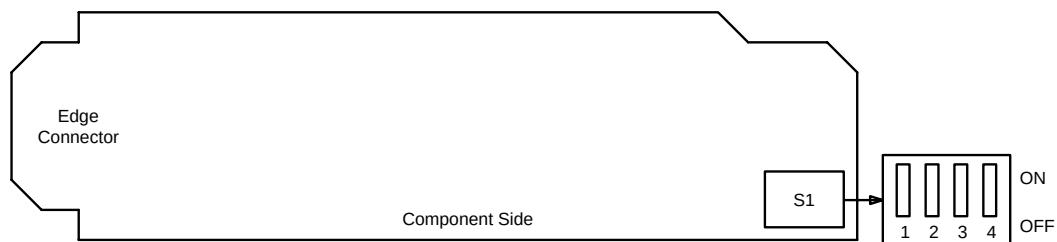

Figure 3. BBF2 TGS Option Switch
Determine the timing mode from work order or office records. Refer to Table D and Figure 3 and set the timing mode as required for the **TGS** circuit pack(s).
12. Refer to Table E and Figure 3 and set the DS1 line coding and frame format as required for the **TGS** circuit pack.